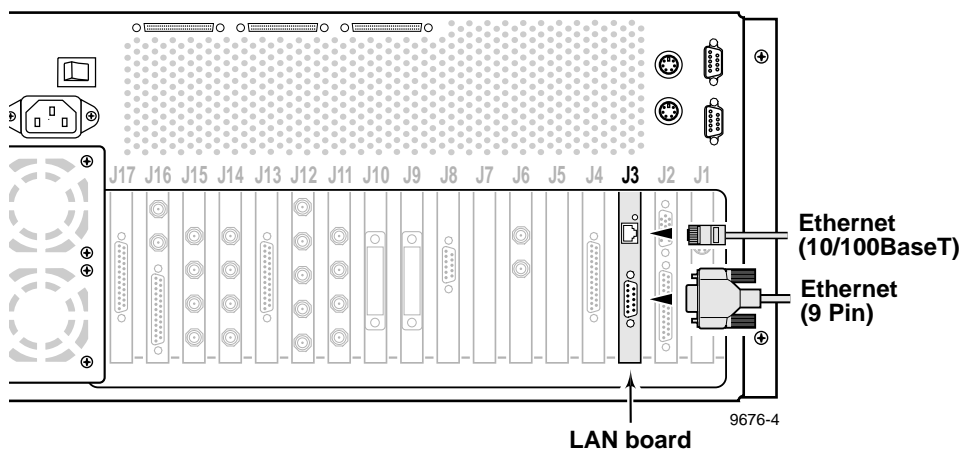

Figure 4-4. System LAN Board
Figure 4-4 shows the location of the System LAN board for connection of the Ethernet cable. See Appendix B for connector pin-out information. To connect your Profile system to Ethernet:
2. Connect the Ethernet cable to the appropriate Ethernet connector on the LAN board (Figure 4-4).